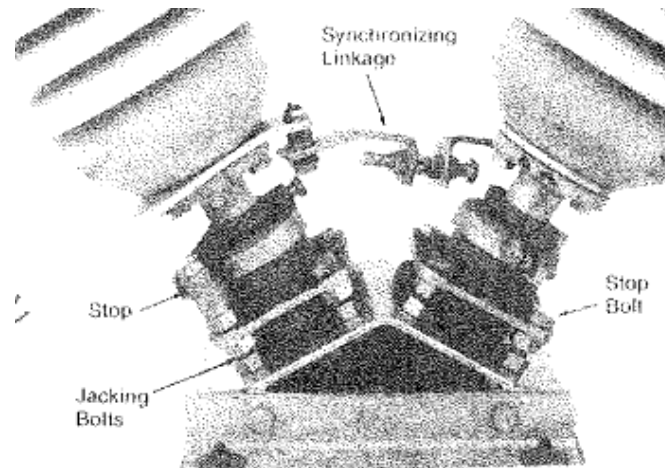

Figure 3: Rotating Insulator Bearing Housing
4. With male blade in closed position, adjust and level male blade plug to be centered over bearing housing. Use jacking bolts (**Figure 3**) to make these adjustments.